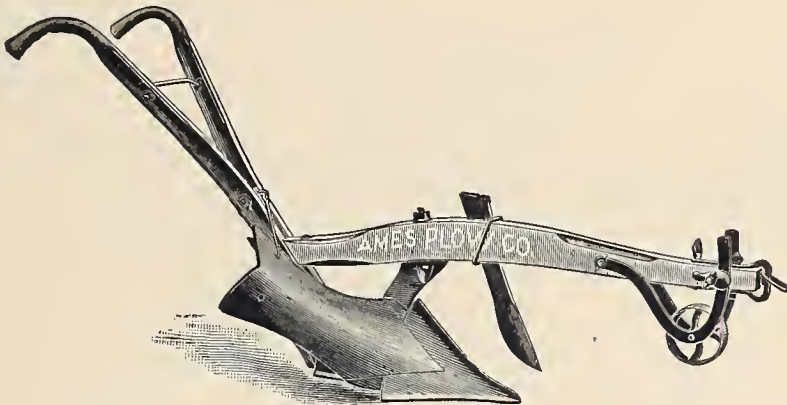

Fig. B 248.—Steel Swivel Plow, B-1.
*Steel Swivel Plow, B-1*, illustrated at *Fig. B 248*, is suitable for two horses or cattle in either sod or stubble.